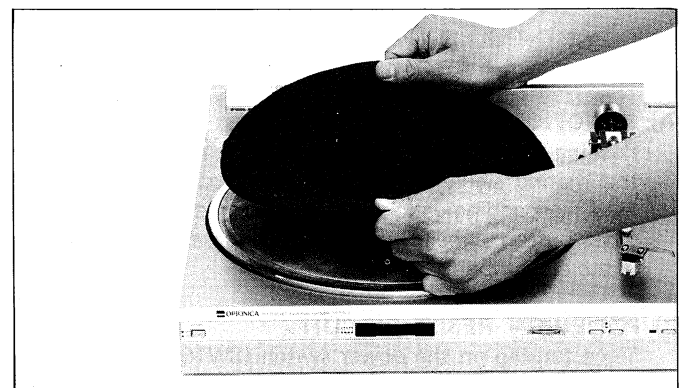

Figure 3-3
1. Take the rubber mat off the turntable. See Figure 3-3.